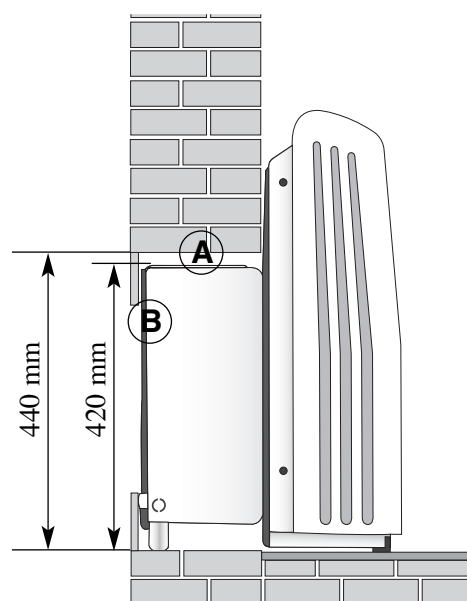

fig. 3
2. Make an opening of adequate depth in the wall bearing in mind that the unit's recessed section has a maximum depth of 235 mm and a minimum depth of 185 mm (see Figure 3).
4. Place the air conditioner through the wall hatch, and make sure that the end of the air conditioner skims the outdoor wall profile (see fig. 3). Seal the rift with opposite resins, in order to avoid the water and the insect entrance.
5. Place along the frontal (A) and rear (B) side a thermal/noise proof material (thickness 50 mm) in order to avoid noise, air and heat passage from the unit to the room and outdoor ambient and viceversa (see fig. 3).